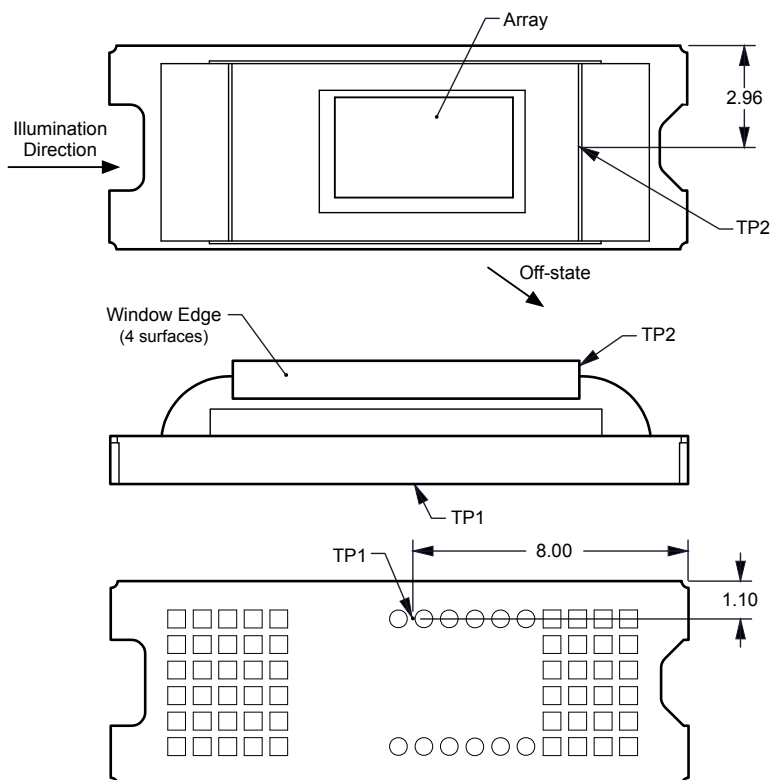

Figure 18. DMD Thermal Test Points
Micromirror array temperature cannot be measured directly, therefore it must be computed analytically from measurement points on the outside of the package, the package thermal resistance, the electrical power, and the illumination heat load. The relationship between array temperature and the reference ceramic temperature (thermal test point TP1 in Figure 18) is provided by the following equations:
- $T_{\text{CERAMIC}}$  = Measured ceramic temperature ( $^{\circ}\text{C}$ ), TP1 location in Figure 18
- $Q_{\text{ARRAY}}$  = Total (electrical + absorbed) DMD power on array (W)
- $Q_{\text{ELECTRICAL}}$  = Nominal DMD electrical power dissipation (W)